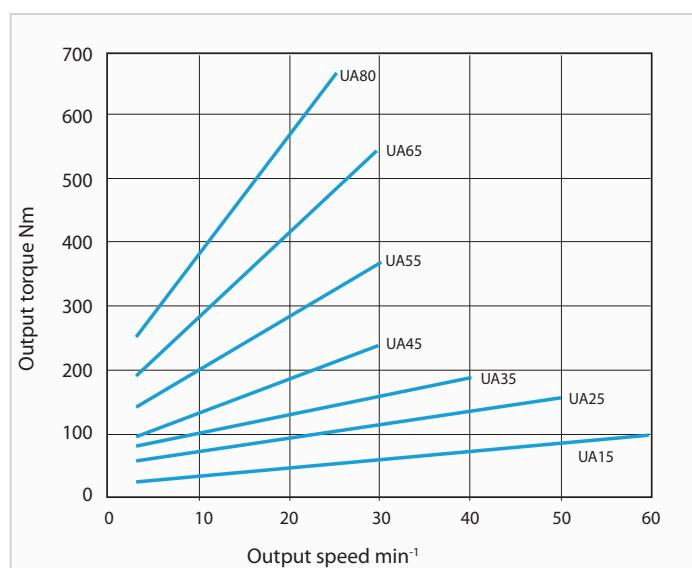

Fig. UA1 Output side no-load running torque
**Note** 1. Fig. UA1 shows the average no-load running torque after gearbox is run in (not factory-new condition).